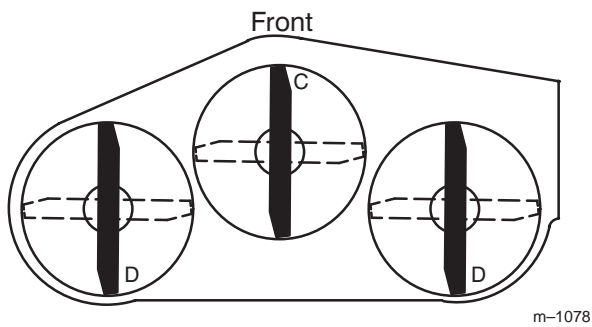

Figure 28
2. Position the blades front-to-rear (Fig. 28). Measure at “C” and “D” locations (Fig. 28) from a level surface to the cutting edge of the blades (Fig. 29).